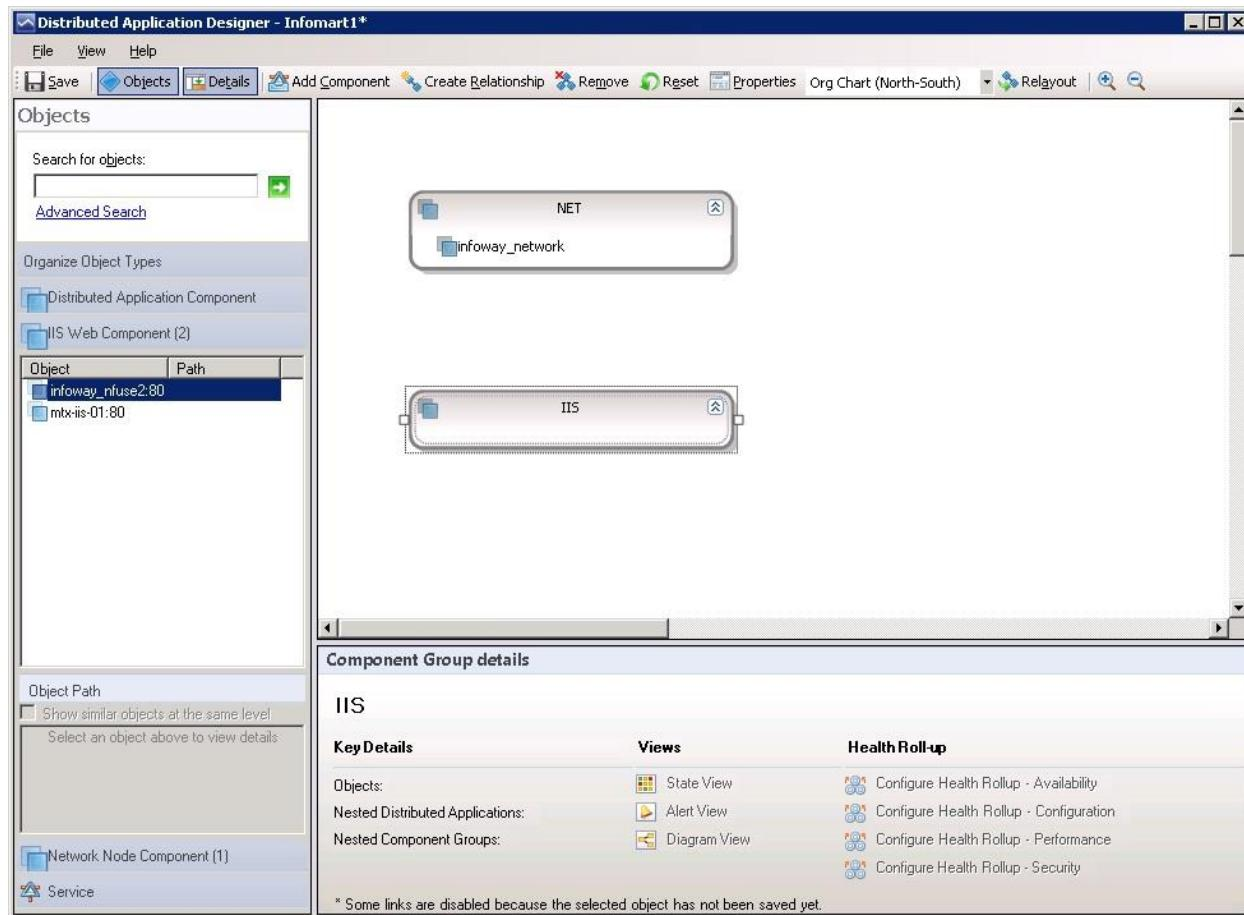
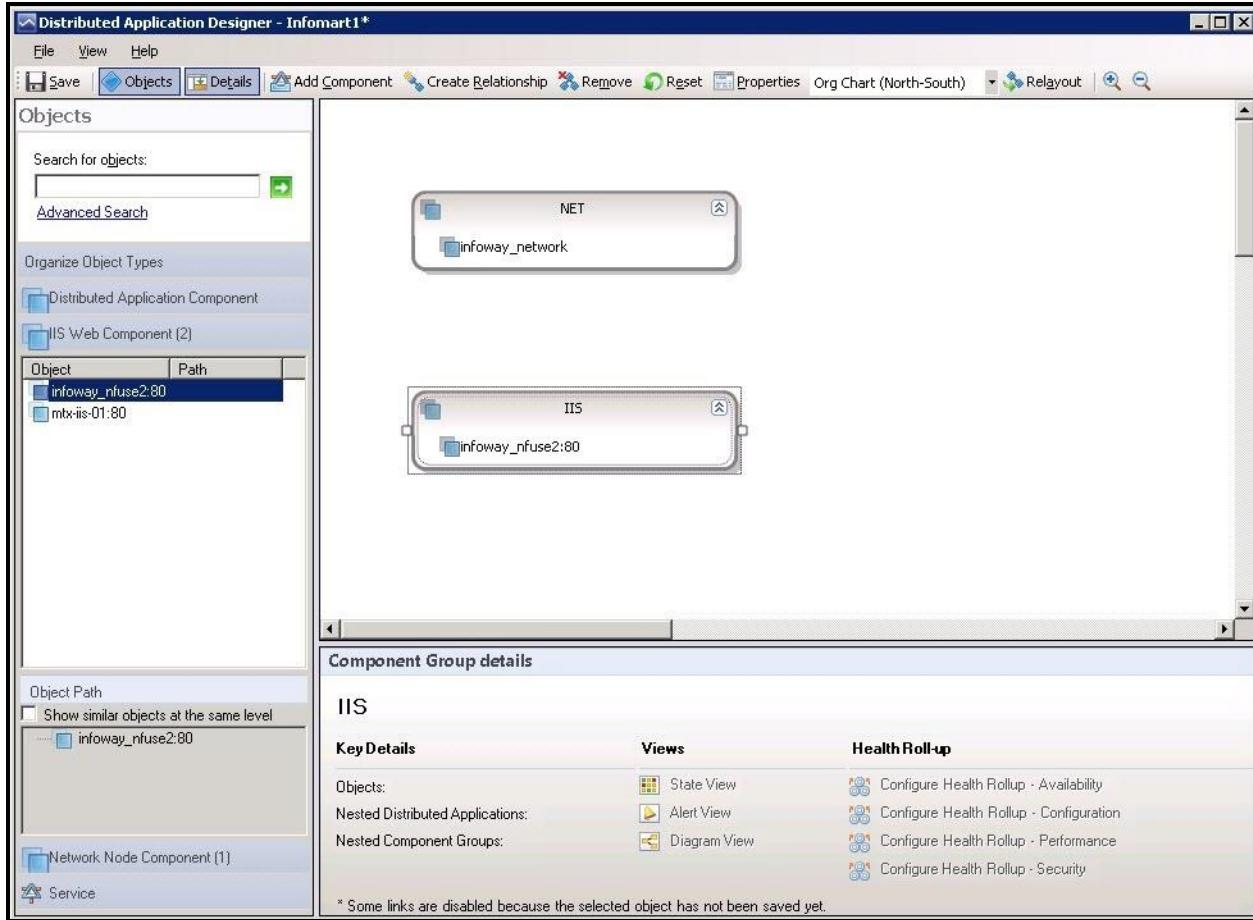
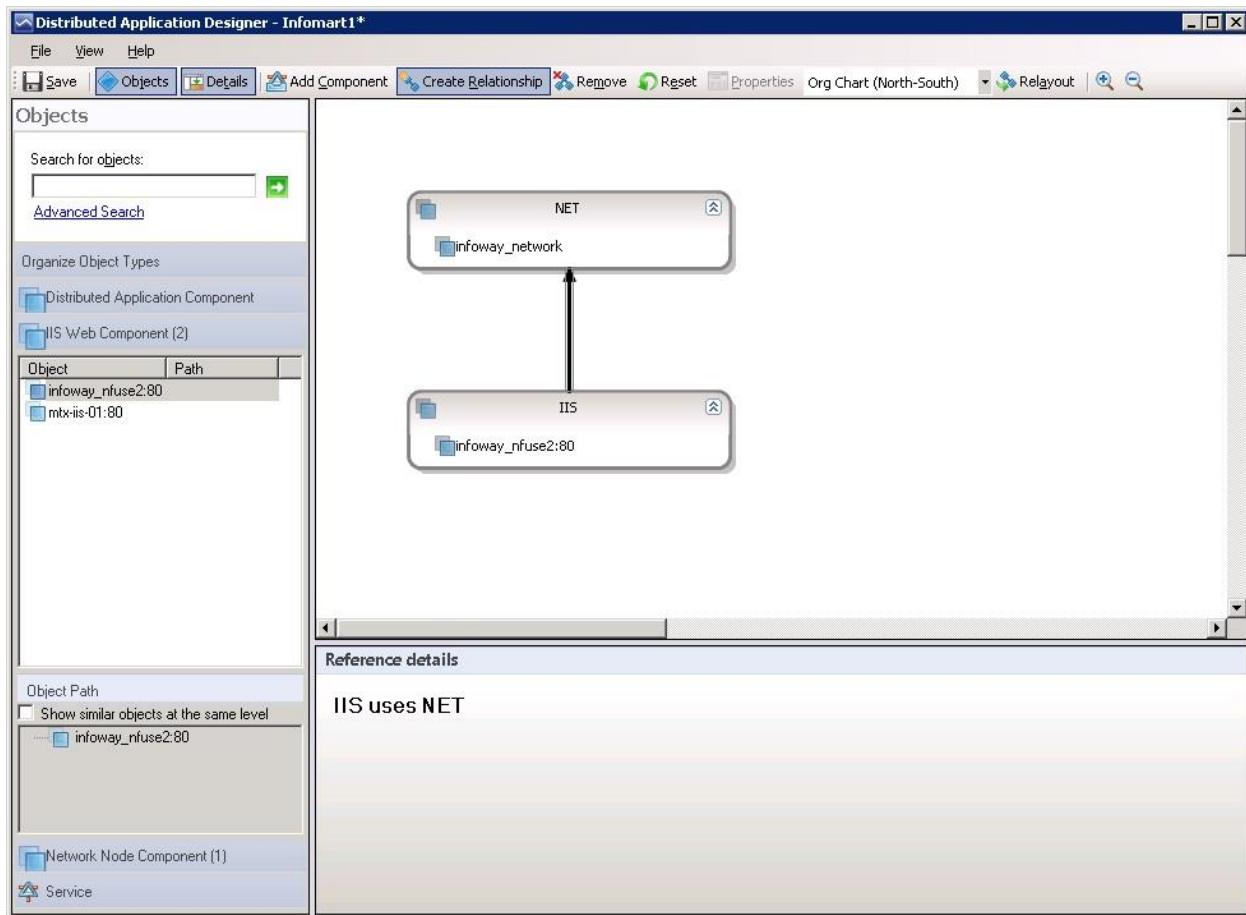

Figure 3.33: The IIS Web Component group appearing in the Designer window
Figure 3.34: Adding the *infoway_nfuse2:80* component to the IIS component group
Figure 3.35: Creating a relationship between the IIS and NET components
10. The **Distributed Application Designer** window now reappears displaying a separate box for the **IIS** component group that you just created (see Figure 3.33). In the left panel of Figure 3.33, click on the **IIS Web Component** section (as indicated), select the *infoway_nfuse2:80* component from the web server list that appears, drag it, and drop it into the **IIS** box (as shown by Figure 3.34).
- Now, proceed to create a relationship between the IIS web component and the Network node component. For this, click on the **Create Relationship** button in Figure 3.34, and then draw an arrow connecting the IIS box in the **Designer** window with the NET box, as depicted by Figure 3.35. Since IIS is dependent on the NET component in our example for its functioning, the direction of the arrow should indicate the 'Uses' relationship – i.e., the arrow head should face the NET component. Once done, you can look up the **Reference Details** section of the **Designer** window to know whether the intended relationship has been established between the two components. For instance, in the case of our example, if this section displays the message, **IIS uses NET**, it is a clear indication that your 'relationship configuration' is correct.